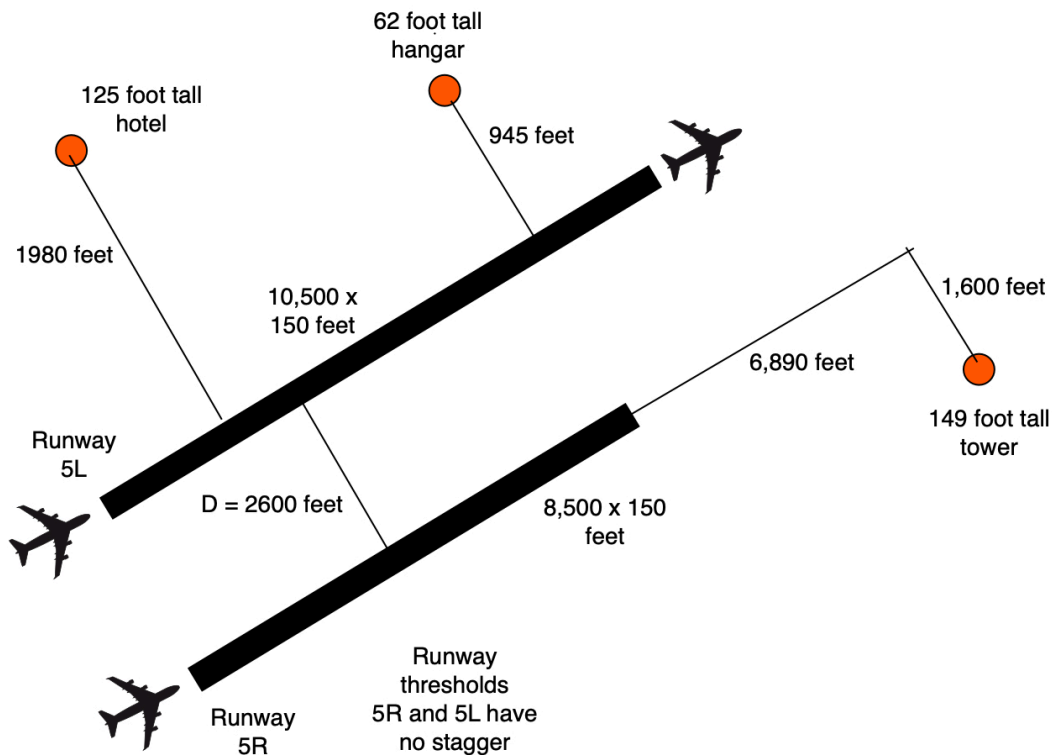

Figure 1. Runway Configuration for Problem 1.
This problem analyzes the runway capacity for an airport with runway configuration shown in Figure 1. The airport fleet mix is shown in Table 1. Note that the regional airport uses the new Re-Categorization developed by FAA with 6 groups. ATC uses 2 nm as the minimum separation between arrivals and departures if mixed runway operations are in place (Note runway 5L is used for mixed operations). For this analysis we use the following technical parameters: a) in-trail delivery error of 22 seconds under IMC conditions, b) probability of violation is 5%. Arriving aircraft are “vectored” by ATC to intercept the extended centerline off the runways 5R and 5L at two fixes (points in space) located 11 miles from each runway threshold. Tables 2 and 3 show the arrival-arrival and departure-departure separations. According to Figure 1, runway 5R is the primary arrival runway and 5L is the primary departure runway.
This problem analyzes the obstructions to navigation for the airport configuration shown in Figure 1. Both runways are precision runways with ILS category 1 approach capability.
- Analyze the three objects shown in Figure 1 and determine if any of the objects is an obstruction to navigation. In your analysis, include checks to FAR Part 77, OFZ and new siting criteria (OCS). Clearly state the surface or criteria violated (if any).